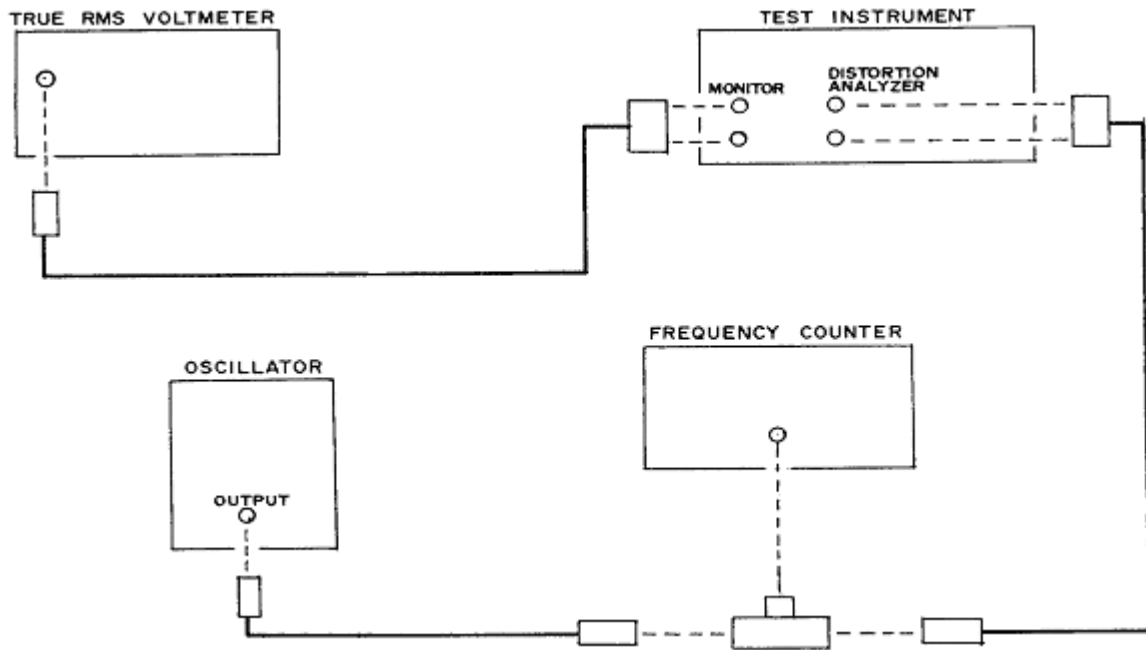

Figure 2. Filter accuracy - equipment setup.
(1) Connect equipment as shown in figure 2.